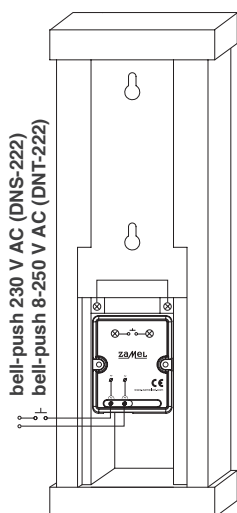

Fig. 1
1. Standard connection (to the existing doorbell system) – Fig. 1,